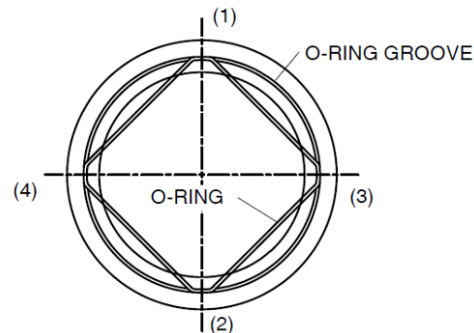

FIGURE 1
- a. Push the O-ring into the groove in (4) sequential steps as shown in Figure 1.